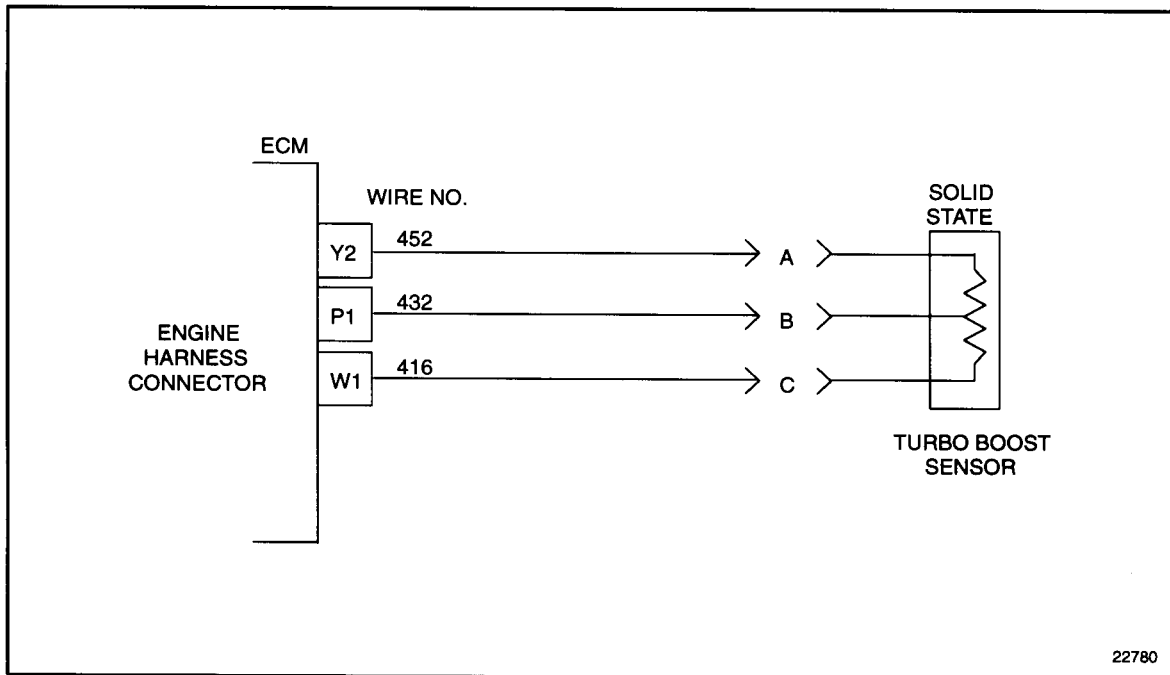

Figure 33-2 Turbo Boost Sensor
2. Disconnect the TBS connector. See Figure 33-2.